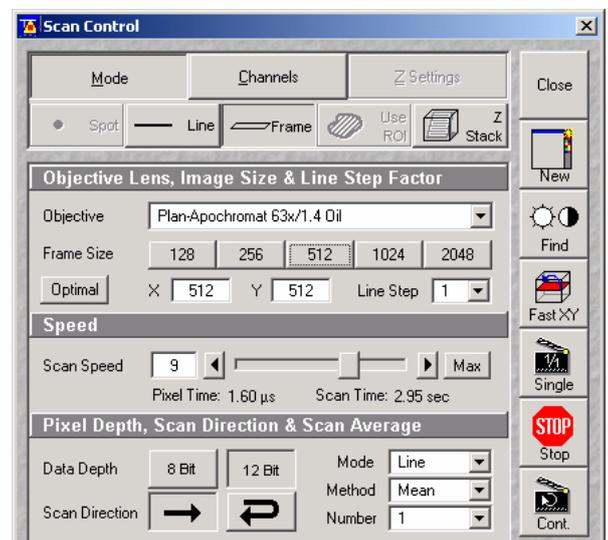

Fig. 19 Scan Control window, Mode settings
The **Scan Control** window appears (Fig. 19).
- Use the slider in the **Speed** panel (Fig. 19) to adjust the scan speed.
- Select the dynamic range 8 or 12 Bit (per pixel) in the **Pixel Depth, Scan Direction & Scan Average** panel (Fig. 19).